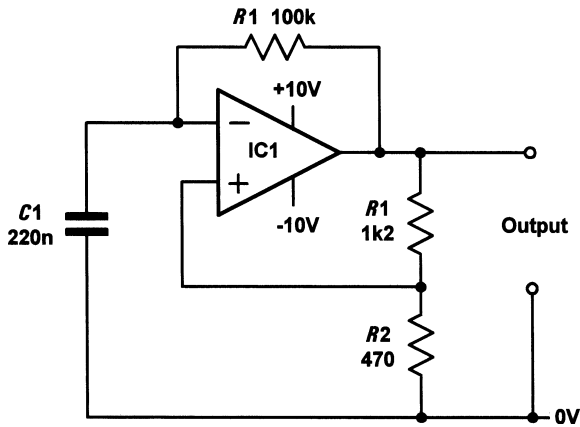

Figure 9.18
- 9.4 Determine the peak-peak voltage developed across $C1$ in Fig. 9.18.